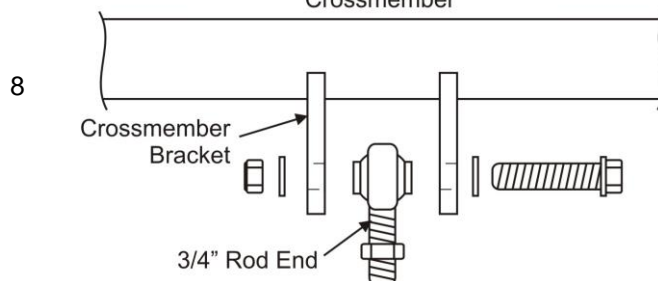

Figure 7a
1. **Round Tube Crossmember-** Find and mark the center of the dropped section of the crossmember. Slide two of the crossmember brackets over each end of the crossmember. Utilizing the center bolt hole position in the brackets, bolt the crossmember to the front of the ladder bars. There **MUST** be a washer on either side of the rod end when bolting between the crossmember brackets. **See Figure 7a.** Position the crossmember under the car to determine the mounting position and width. Using the centerline mark, the crossmember should be centered directly under the driveshaft. **NOTE:** The distance from the centerline of the axle to the front edge of the crossmember is approximately 37-3/8". **See Figure 7.**
1A. **Square Tube Crossmember-** Find and mark the center of the dropped section of the crossmember. Loosely bolt the crossmember brackets, through the center hole, onto both ladder bars (one bracket on each side). There **MUST** be a washer on either side of the rod end when bolting between the crossmember brackets. **See Figure 7a.** Snug the nuts and bolts up enough so they stay in place. Position the ladder bars and crossmember under the car to determine the mounting position and width. Using the centerline mark, the crossmember should be centered directly under the driveshaft. **NOTE:** The distance from the centerline of the axle to the front edge of the cross member is approximately 37-7/8". **See Figure 8.**
2. Double check all dimensions and then tack weld all brackets in place. Be sure to use a tape measure, carpenters square and level to assure the accuracy of the suspension placement. There **MUST** be a washer on either side of the rod end where they sit between the crossmember brackets. **See Figure 7a.**